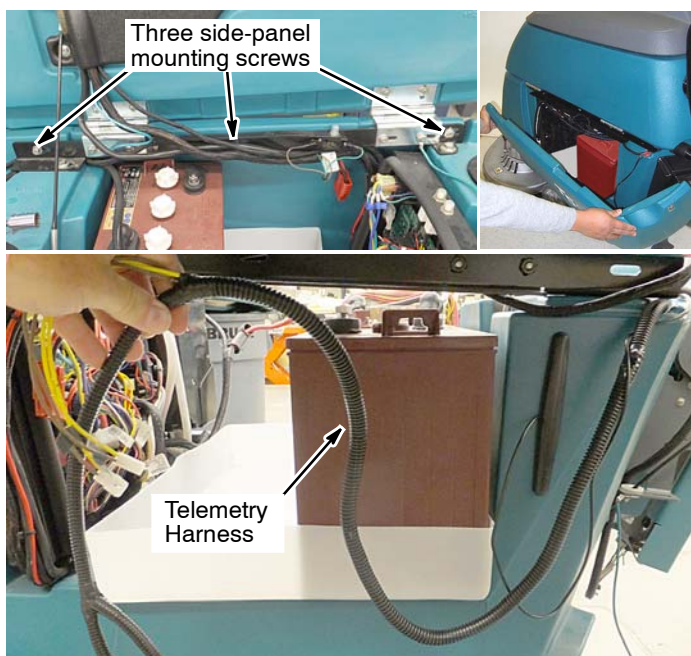

FIG. 8
7. Remove the left-side panel from machine to access telemetry harness. Three screws are used to mount side-panel (FIG. 8).